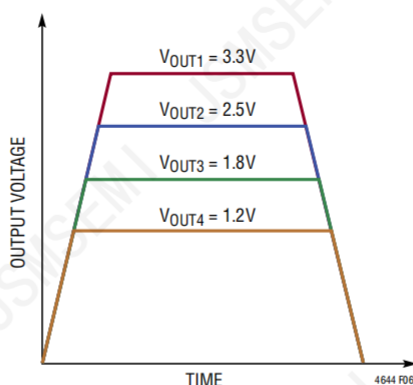

Figure 23. Output Coincident Tracking Waveform
The coincident output tracking can be recognized as a special ratiometric output tracking which the master's output slew rate (MR) is the same as the slave's output slew rate (SR), as waveform shown in Figure 23.
The expression shows that the diode voltage decreases (linearly if I_0 were constant) with increasing temperature and constant diode current. Figure 23 shows a plot of V_D vs Temperature over the operating temperature range of the LTM4644.